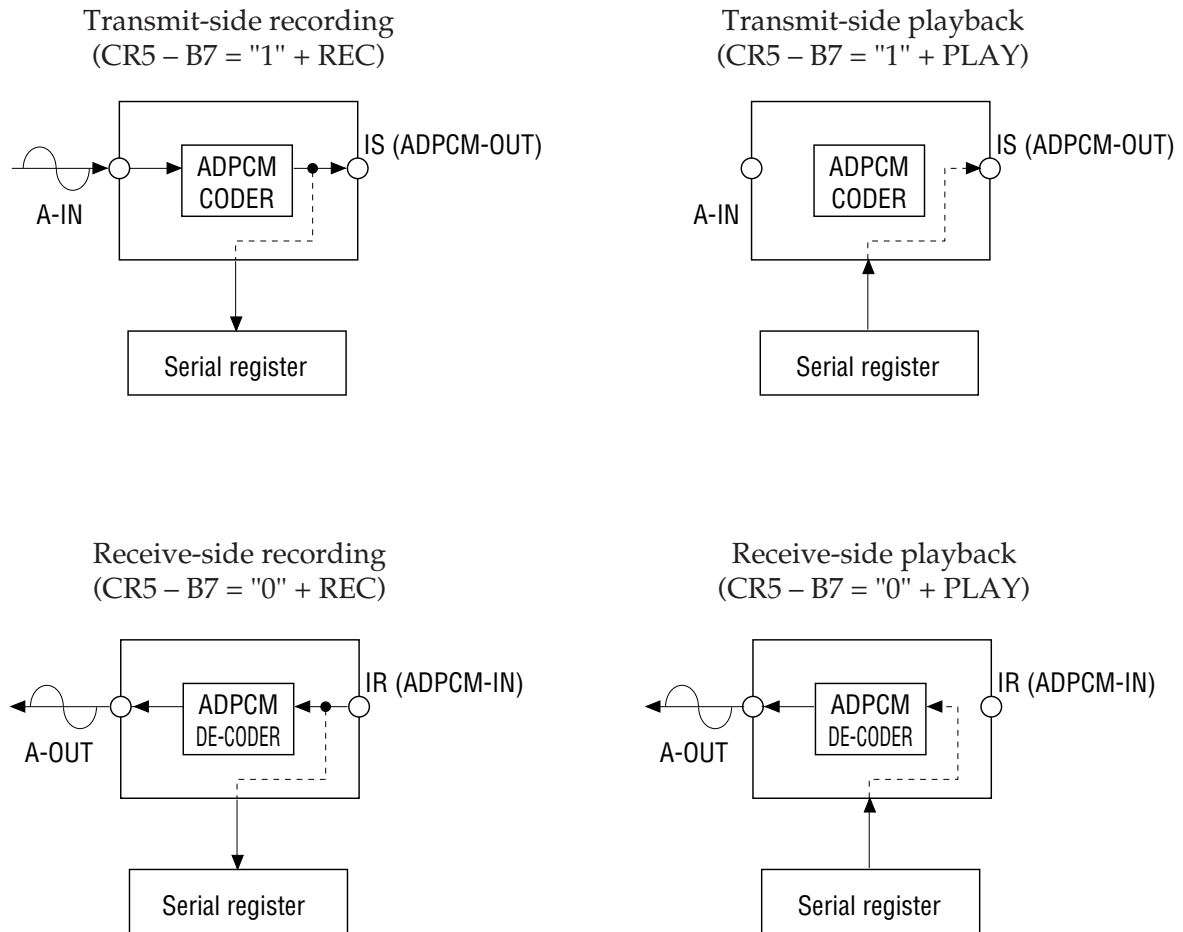

Figure 11 Signal Flow in Transmit/Receive Side Recording/Playback
- (1) • Set up the connection between the serial register / voice ROM and ADPCM transmit-receive system. (See Figure 11.) (CR5 - B7)
- (2) • Set the start/stop address. (CR8 to CR12)
- (3) • Set the channel. (CR13 - B7 to B3)
- (4) • The start/stop address of the channel set by the ADWT instruction is stored in the channel index area. When status register BUSY (CR7 - B1) changes from "1" to "0", storage is complete.
- (5) • Start recording by setting the REC (recording) command (CR5 - B1 = "1", B0 = "0"). In this case, the basic setting of CR5 - B7 to B5 should be the same as (1).
- (6) • Check the recording start with the status register RPM bit (CR7 - B0 = "1").
- (7) • To interrupt during recording, set the STOP (stop) command (CR5 - B1 = "1", B0 = "1"). In this case, to store the address counter contents in the channel index area as a new stop address, the following settings are required:
- (1) • Set up the connection between the serial register/voice ROM and ADPCM transmit-receive system. (See Figure 11.) (CR5 - B7)
- (2) • Set the channel. (CR13 - B7 to B3)
- (3) • For playback of the voice ROM, set the start/stop address here.
- (4) • The start/stop address of the channel set by the ADRD instruction is fetched from the channel index area.